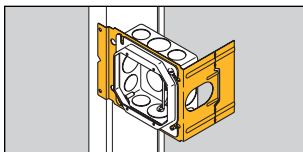

Figure 11 - BB4-23
(C) Mounting in Finished Surfaces. An enclosure mounted in a finished surface shall be rigidly secured thereto by clamps, anchors, or fittings identified for the application. *(See Figures 11 & 12)*